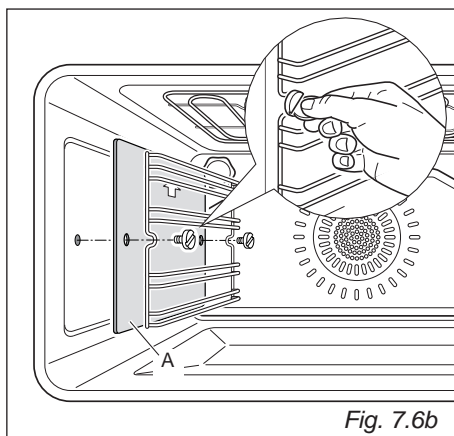

Fig. 7.6b
In the models with catalytic panels supplied: interpose the catalytic panels "A" with the arrow up (fig. 7.6b).
- Screw the side racks onto the oven wall (fig. 7.6b).